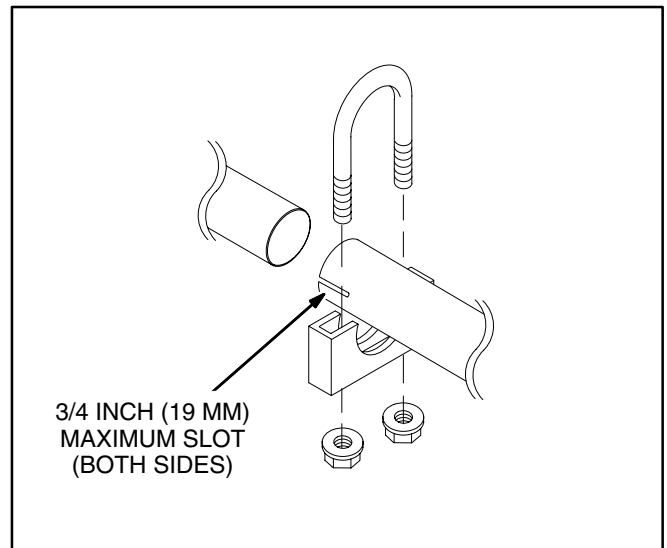

FIGURE 4. EXHAUST TAILPIPE CONNECTIONS
3. Use U-bolt muffler clamps to connect sections of tailpipe. It is recommended that the overlapping pipe be slotted as shown in Figure 4.